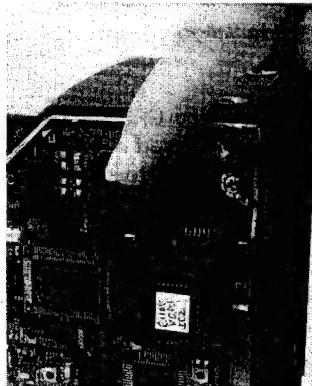

Fig. 1-7-1a
- (1) Remove the right side cover (see section 1.3.1).
- (2) Locate the lithium battery on the CP board.
- (3) Remove the battery by pushing it temporarily downward (Fig. 1-7-1a) then sliding it in the direction of the arrow (Fig. 1-7-1b).